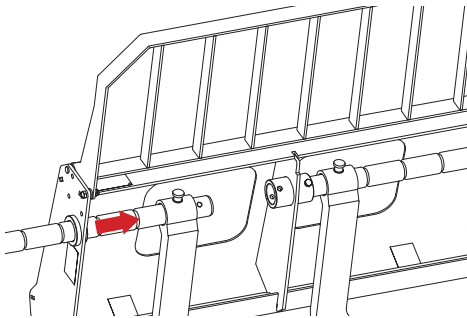

Figure 13
7. Move the second tyne into place and insert the rod through the tyne hole (Figure 13).